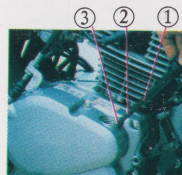

Fig.16
Check the oil level (Fig.16) lower mark ③.